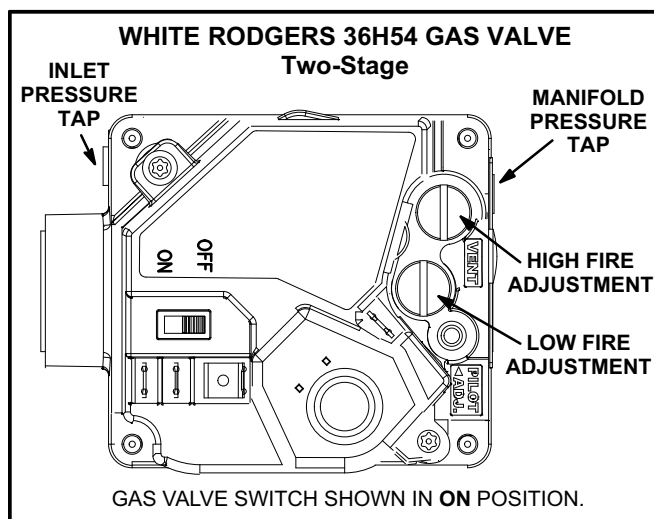
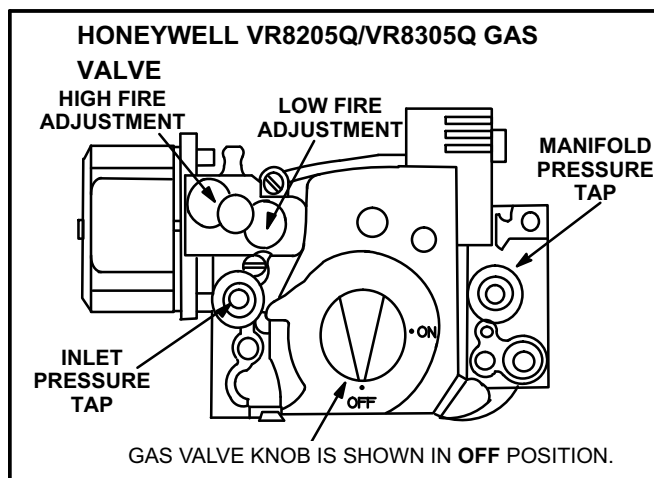

FIGURE 29
FIGURE 30
Gas Valve Operation for Honeywell VR8205Q/VR8305Q and White Rodgers 36H54 (figure 29 and 30).
- 5- Turn gas valve switch to **OFF**. See figure 29. On Honeywell VR8305Q gas valves, turn the knob on the gas valve clockwise ➡ to “**OFF**”. Do not force. See figure 30.
- 6- Wait five (5) minutes to clear out any gas. If you then smell gas, **STOP!** Immediately call your gas supplier from a neighbor's phone. Follow the gas supplier's instructions. If you do not smell gas, go to the next step.
- 7- Turn gas valve switch to **ON**. See figure 29. On Honeywell VR8305Q gas valves, turn the knob on the gas valve counterclockwise ⬅ to “**ON**”. Do not force. See figure 30.